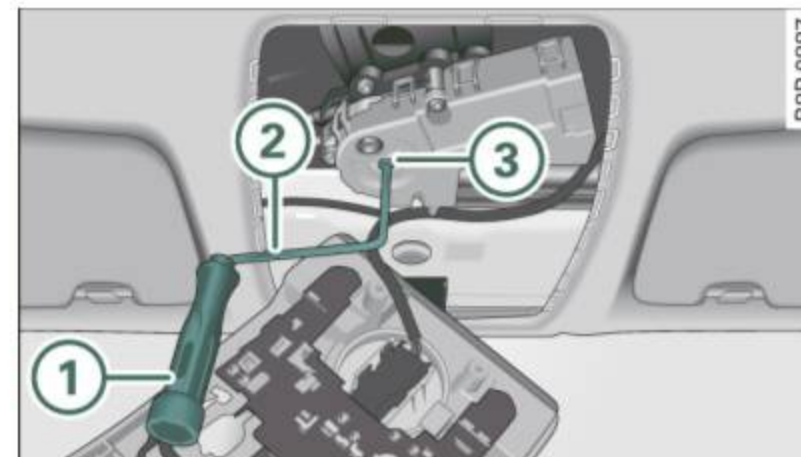

Fig. 48 Light unit in the headliner: crank for emergency operation
- Push the long end of the crank ② ⇒ *page 54*, fig. 48 all the way into the hexagonal hole ③.